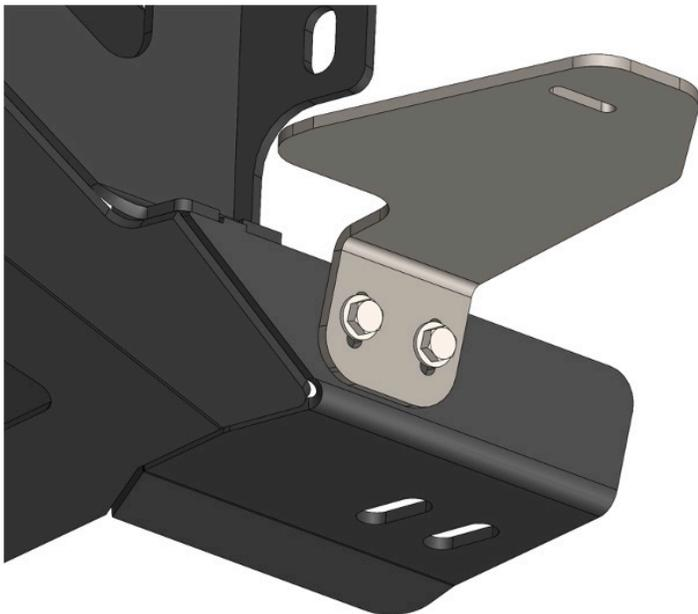

Figure 34.
27. Install the stiffener brackets (23405 and 23406) onto the lower mounting brackets using the provided 1/4" yellow zinc hex head bolts, washers and nuts. Figure 34..